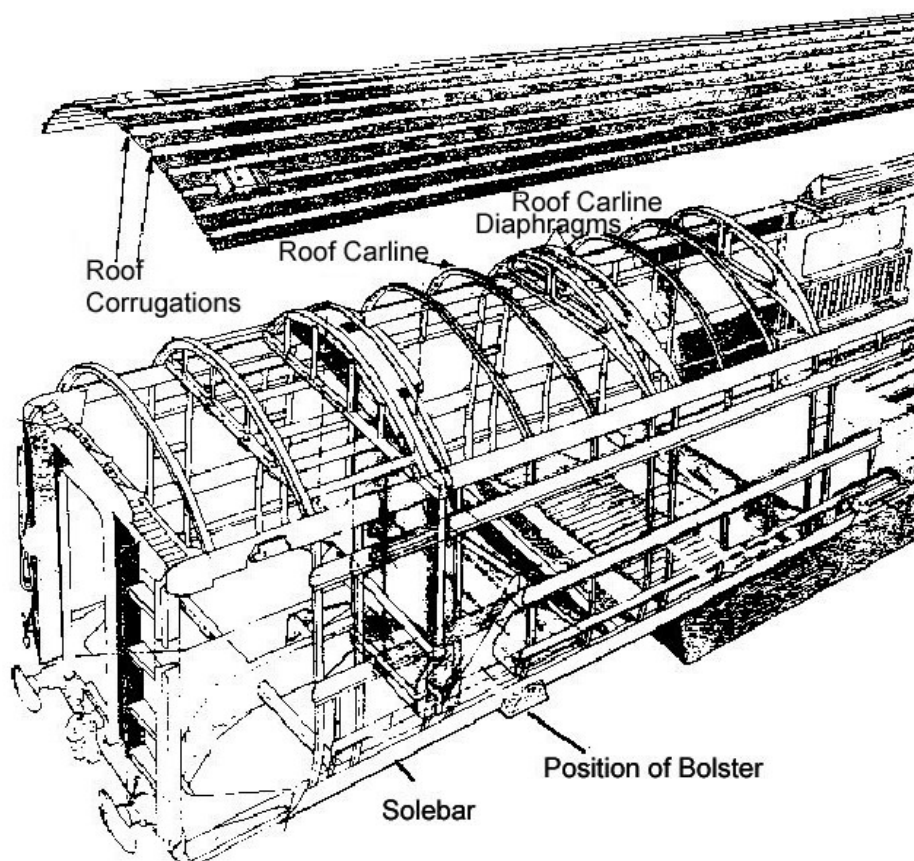

Figure 6: Sectional Drawing (Showing roof carlines)
- 3.3 The support is to be applied before any work takes place on the roof frame/panels and must be such that, using a taut wire line between bolsters of the vehicle as a datum, the body must be given 3mm extra camber (measured longitudinal centre of vehicle) prior to commencement of work and held in that position until all work is completed (see Figure 6).